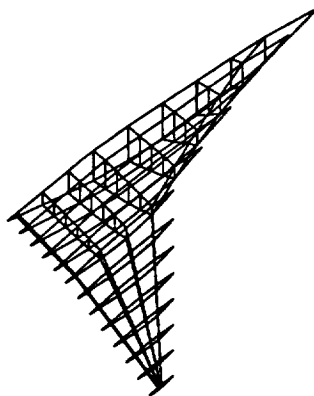

FIGURE C.9.
- The resulting geometry, as shown in figure C.9, is displayed in the left View Window.